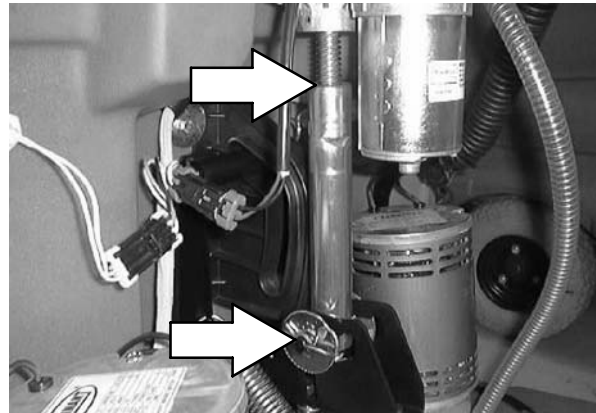

FIG. 8
3. Connect the actuator to the scrub head with the clevis pin. Refer to FIG. 8.